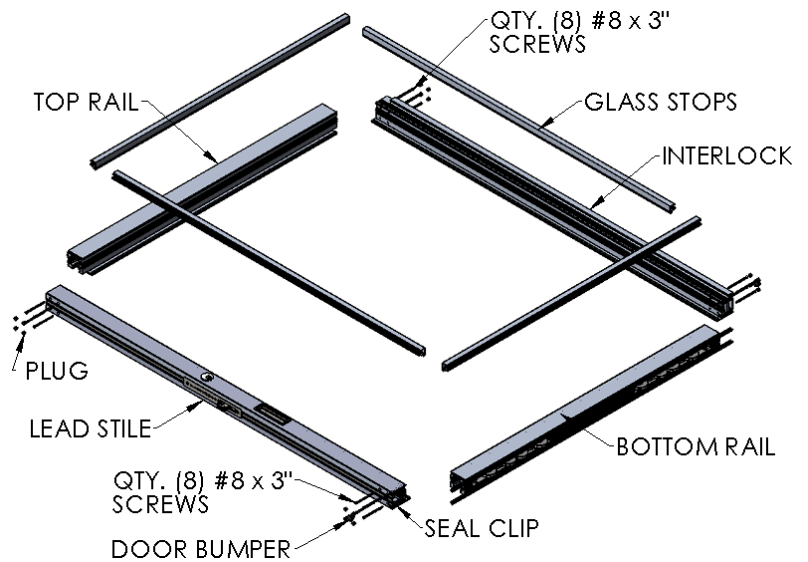
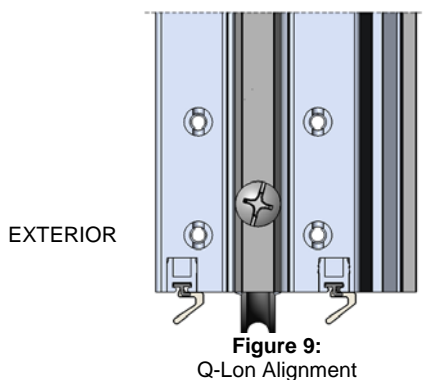

Figure 8:
Figure 9:
- Slide the Q-Lon sweep into the outer and inner most slot of the bottom rail to the end of the stiles (Figure 9). Cut Q-Lon flush to the vertical stiles.
- Secure the stiles to the rails with #8x3" flat head screws (8 per side) in the top and bottom rails repeat for opposite side (Figure 8). It is recommended that wax is added to the threads of all fasteners to reduce the drive torque. Ensure the Roller adjustment holes and rollers align (Figure 9). Place the plugs over screw holes.